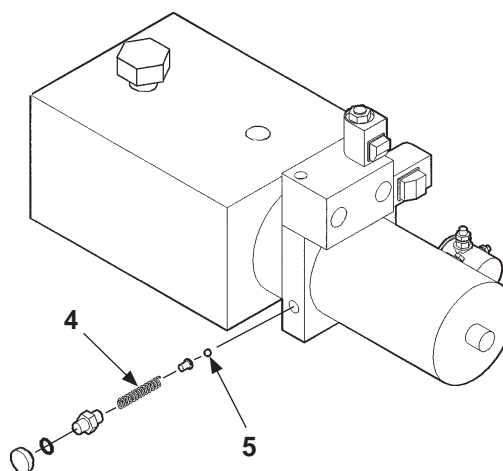

**FIG. 44-1**
4. Activate the **RAISE/LOWER** switch several times to verify that the pressure shown on the gauge remains at the proper setting (**FIG. 44-1**).